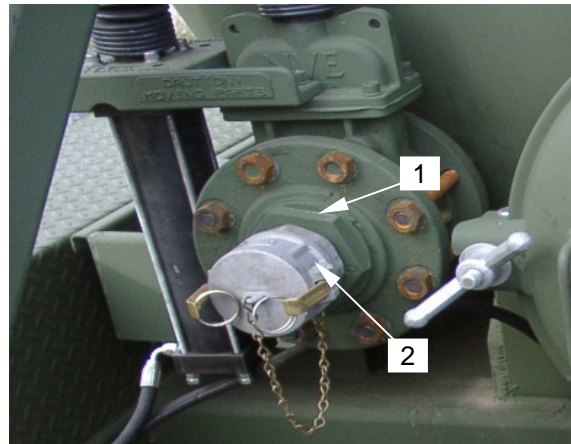

Figure 28. Intake Hoses in Storage Position Figure 29. Intake Valve with Dust Cover
27. Disconnect 2½-inch intake hoses from each other and the chopper tube/wand. Flush hoses with freshwater. Place hoses onto hose hooks (**figure 28, item 2**) and ends into the equipment trays.